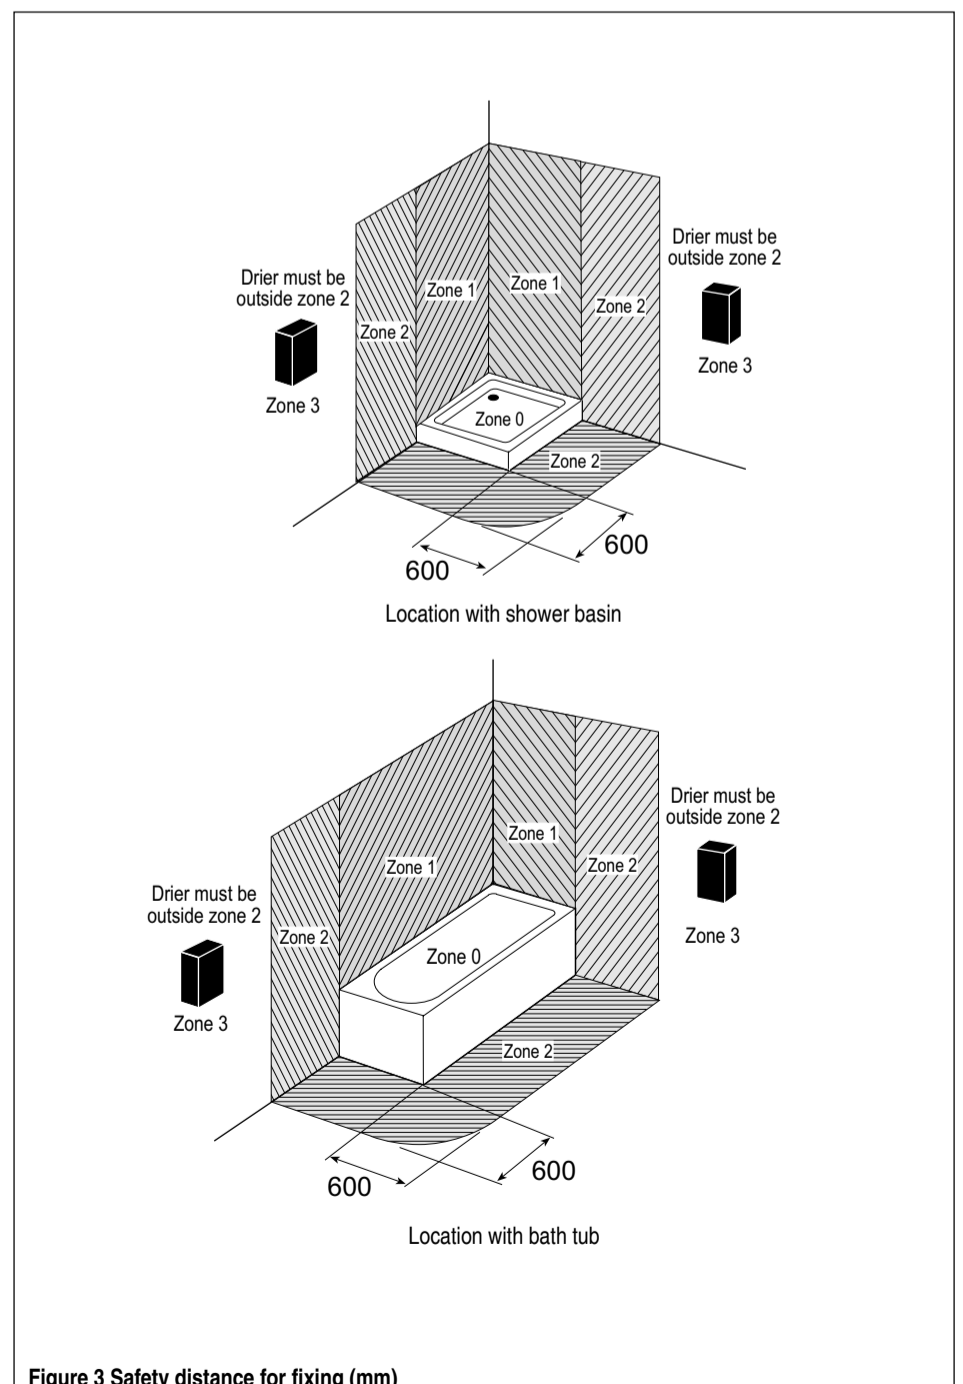

Figure 3 Safety distance for fixing (mm)
- 3.5 Where the drier is fitted in a room containing a fixed bath or shower the drier must be installed to comply with BS7671 regulation 601-02-01 classification of zones, which details the minimum distance away from a bath or shower basin which the drier can be fitted - see figure 3.
- 4.2 Decide on the position of the drier giving full consideration to the electrical connections and to the required safety distance from a bath or shower as shown in figure 3.